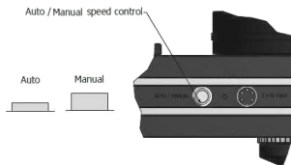

fig.7
2. **Set Auto/Manual** switch which is positioned at the rear side of turntable in Manual position, as shown in the fig.7
1. **Set Auto/Manual** switch which is positioned at the rear side of turntable in Auto position, as shown in the fig.7 ,